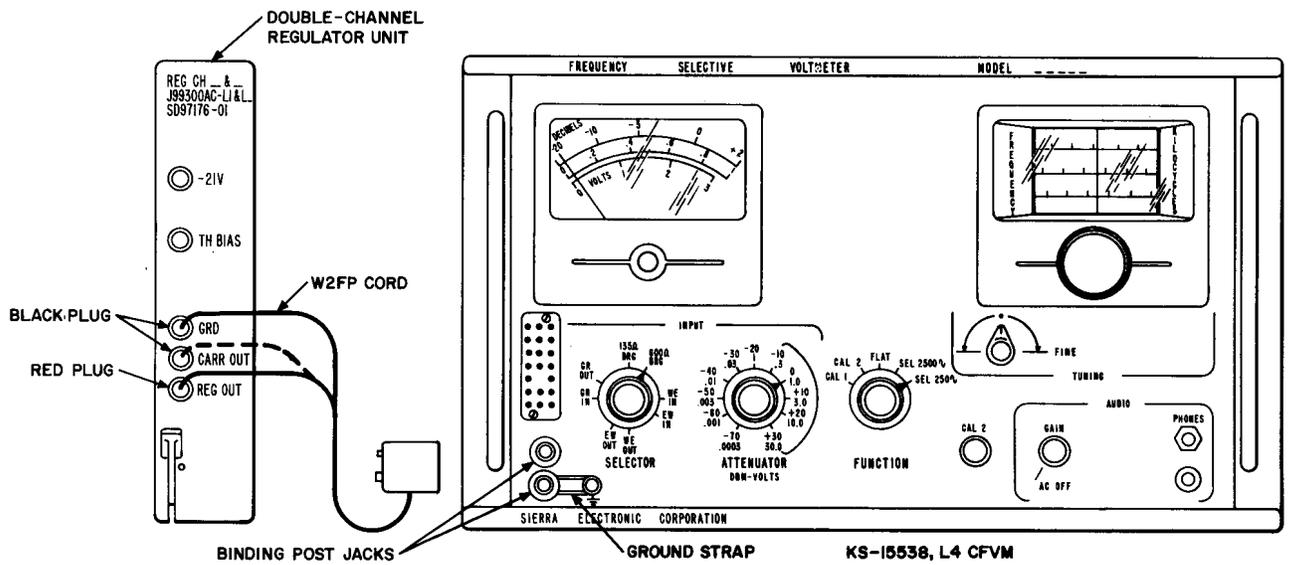

Fig. 4—Measure Output Carrier and Demodulating Carrier Power
- 20 Insert the meter end of the W2FP cord into the INPUT binding posts (Fig. 4). Observe meter and test cord polarities in making this connection.